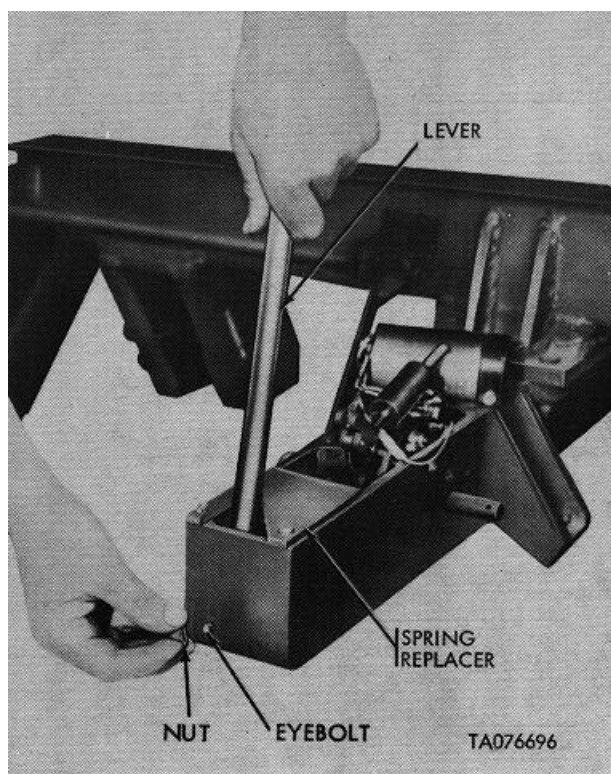

Figure 3-4. Hoisting Beam - Eyebolt Installation Using Spring Replacer Lever and Spring Replacer
- (10) Assemble hook (7) to lock (9) and to spring (6). Assemble spring (6) to eyebolt (5) and, using lever, special tool (12, fig. 1-2), with replacer, special tool (41, fig. 1-2), secure eyebolt to housing (29) with self-locking nut (48) and flat washer (47). Refer to figure 3-4 for use of lever and replacer.